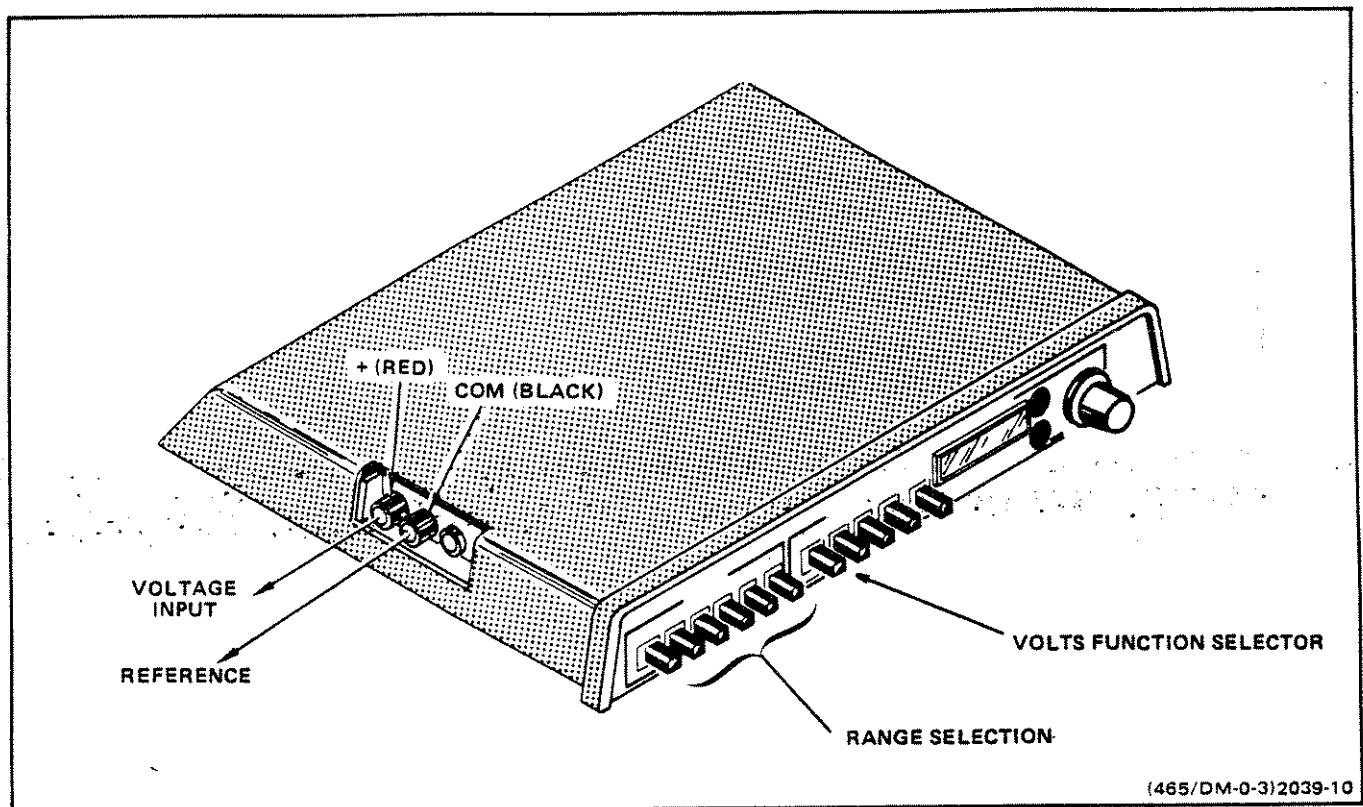

Figure 9. Volts measurement.
1. Press both the VOLTS FUNCTION push button and the 1.2 kV RANGE push button (see Figure 9).